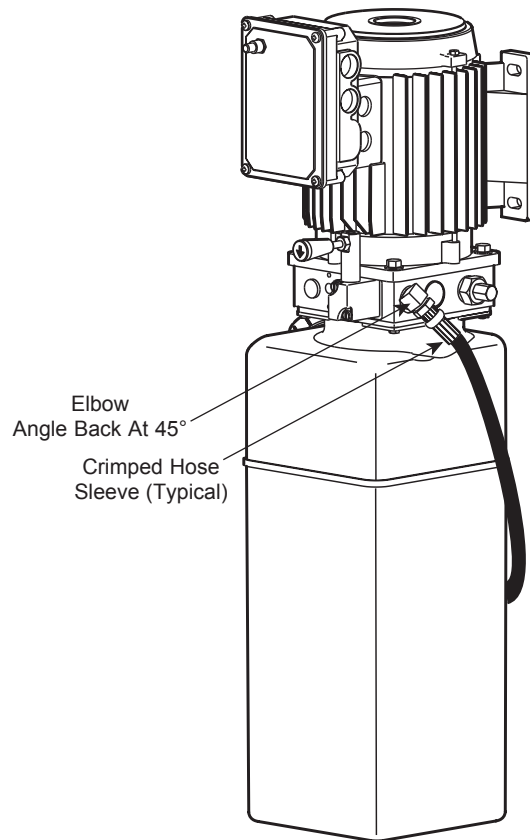
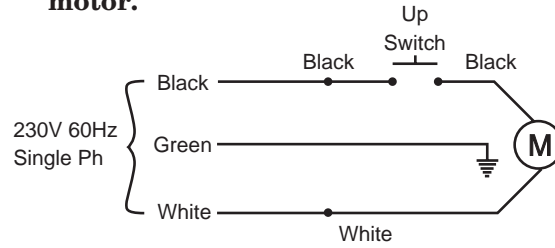

Fig. 18
Fig. 20
B. Mount power unit, with motor up, to column bracket and install lock washers and nuts. Run hydraulic hose from runway through slot in side of runway to power unit output port. **DO NOT** use Teflon tape on hydraulic hose connections. Install and hand tighten elbow to pump until O-ring is seated and elbow should be oriented downward at approximately 45° , Fig. 18. Tighten locknut to 35-40 ft. lbs. Install enclosed Capacity label on power unit, Fig. 20.
D. Install enclosed NP438 Capacity label on power unit, Fig. 18
11. **Electrical:** Have a certified electrician run 220 volt single phase 50 Hz. power supply to motor, Fig. 20. Size wire for 25 amp. circuit. See Motor Operating Data table below.
Note: If fill/breather, Fig. 18, is lost or broken, order replacement.